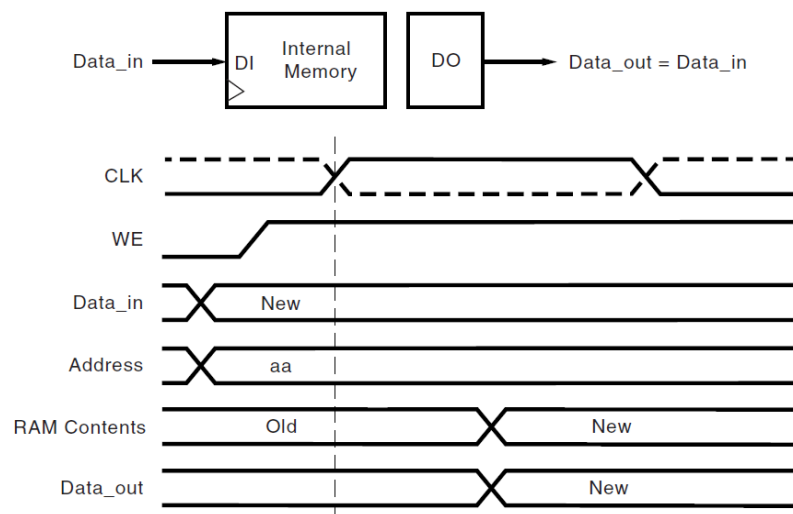

Figure 24 WRITE_FIRST Mode
The WRITE_FIRST option is a transparent mode. The same clock edge that writes the data input (DI) into the memory also transfers DI into the output registers DO as shown in Figure 24.